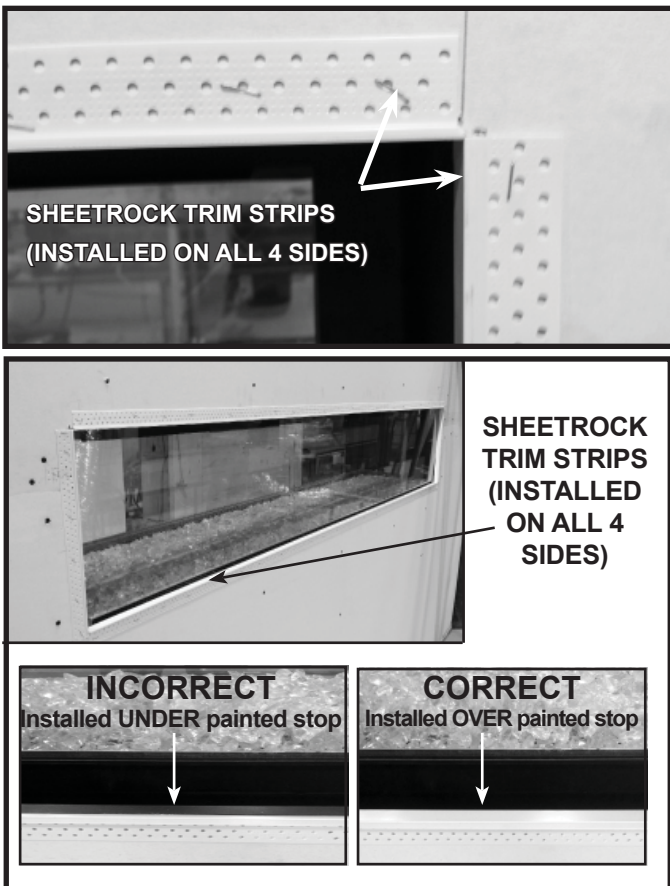

Figure 4. Install Sheetrock Trim Strips
2. Install sheetrock trim strips as shown in Figure 4 on all sides of appliance. Sheetrock trim strips are included with the appliance. Cut the strips to the required length and install them using staples. See Figure 4 for placement of trim strips.